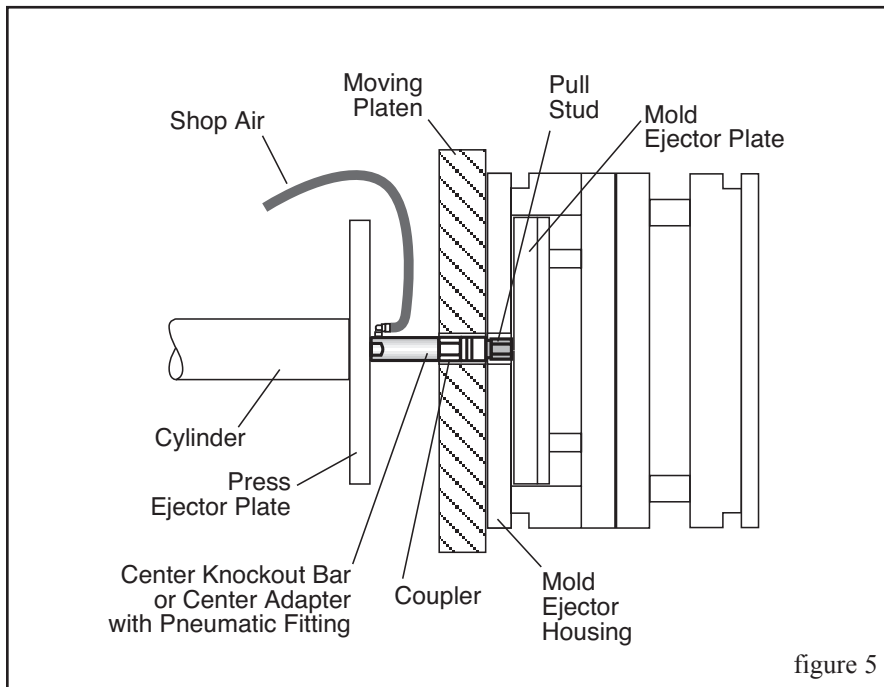

figure 5
1. Install the pull stud into the mold ejector plate per figure 5. Use thread-locking compound to prevent movement during use.